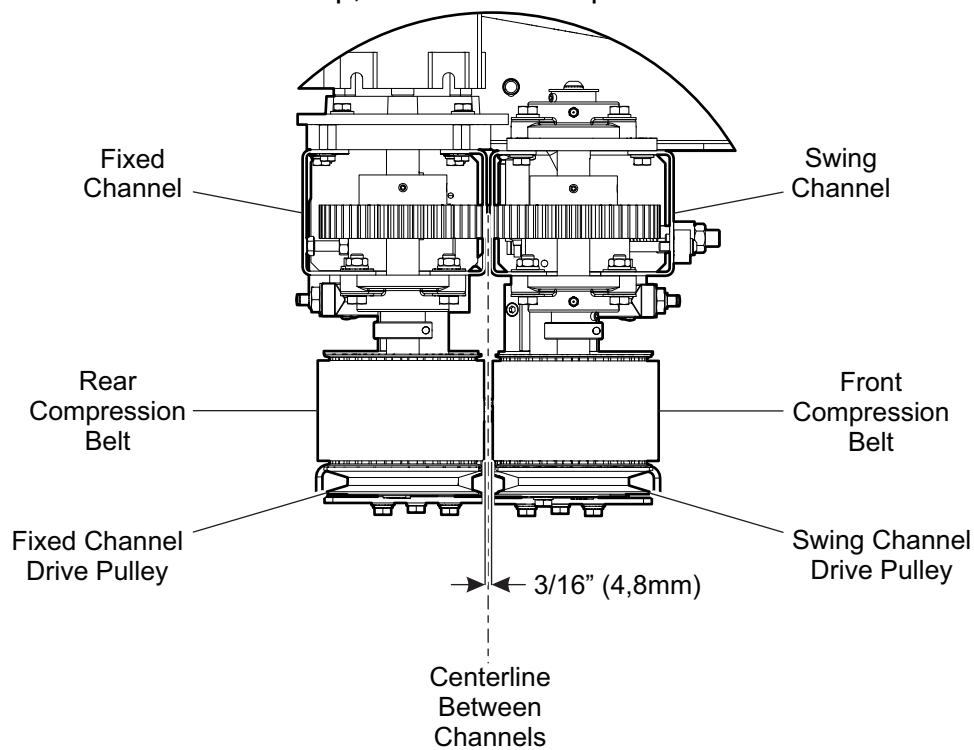

Figure 5-5: Ideal Compression Roller Placement
The rear compression roller should be set before adjustments are made to the front compression roller. Generally, once the rear compression roller is set, it should not need to be adjusted, except after the belt has become worn or replaced. The ideal placement of the rear compression roller places the working surface of the compression belt directly beneath the centerline between the two channels, when the swing channel is in the closed position (see Figure 5-5:). However, if the roller has moved or needs to accommodate a different set up, follow these steps:
2. The swing channel must be in the open position. When it is closed the gap formed between the channels is set at the factory to be 3/16 inches (4,8mm). The working surface of the rear compression belt should be directly beneath the middle of the gap or 3/32 inches (2,4mm) from the face of the channel (see Figure 5-5: Ideal Compression Roller Placement).